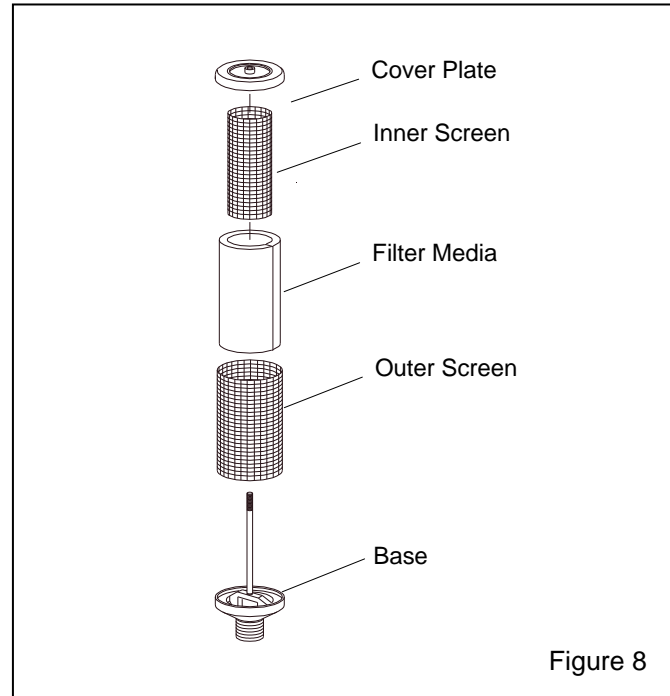

Figure 8
5.5 Inlet filter, Air Pump, Ref. Figure 8